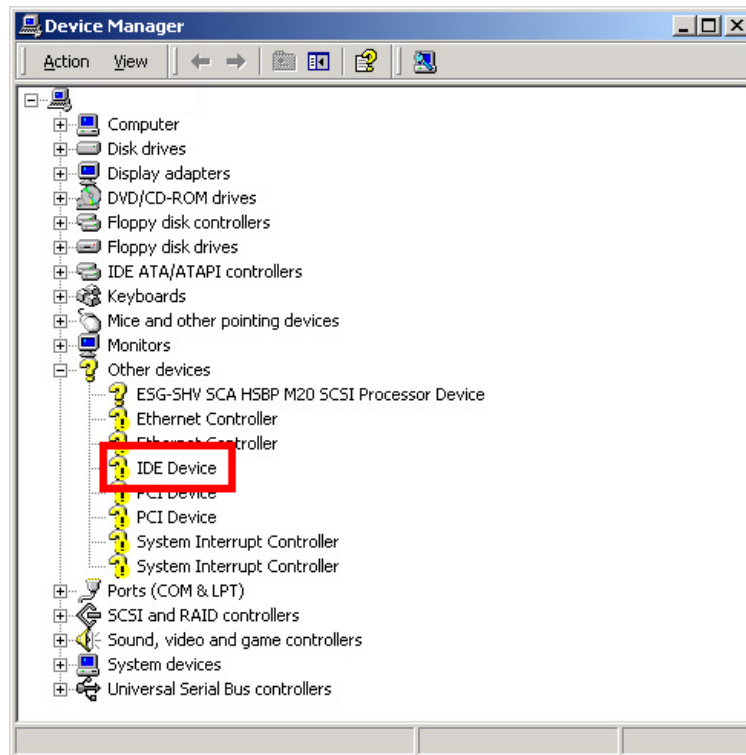

Figure 7-43: Device Manager List
Step 4: A list of system hardware devices appears (Figure 7-43).